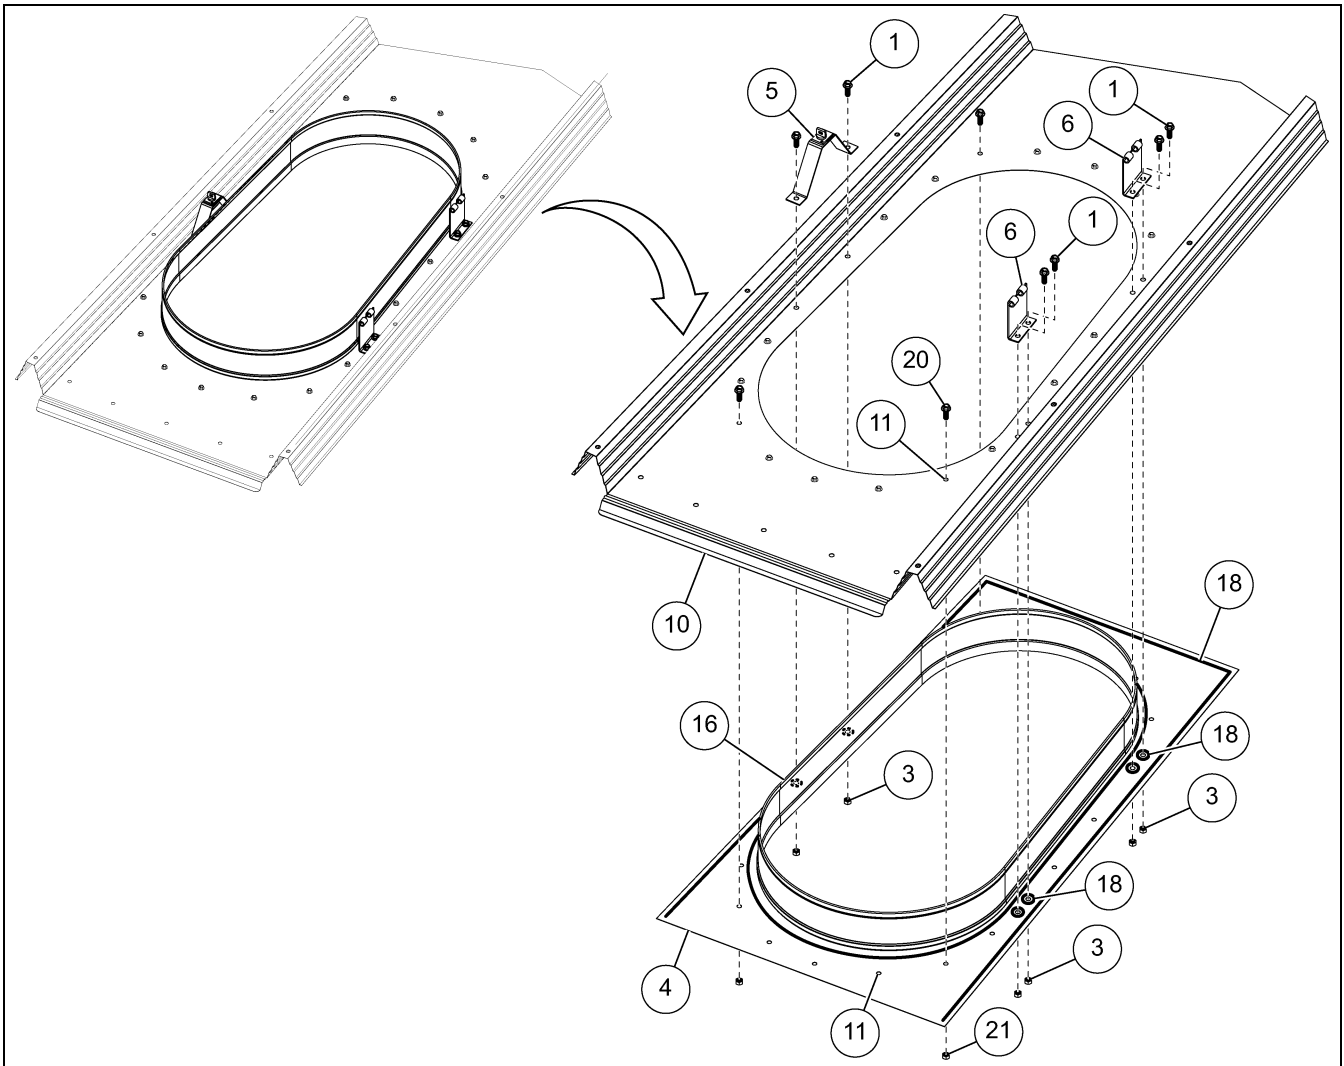

Figure 5 Installing the Add-On Panel with Latch Bracket and Hinge Bases
8. Secure the add-on manway panel (4) to the existing roof panel (10) by installing 5/16" flange bolts (20) and 5/16" flange nuts (21) to the additionally field drilled 3/8" holes (11). (See Figure 5.)